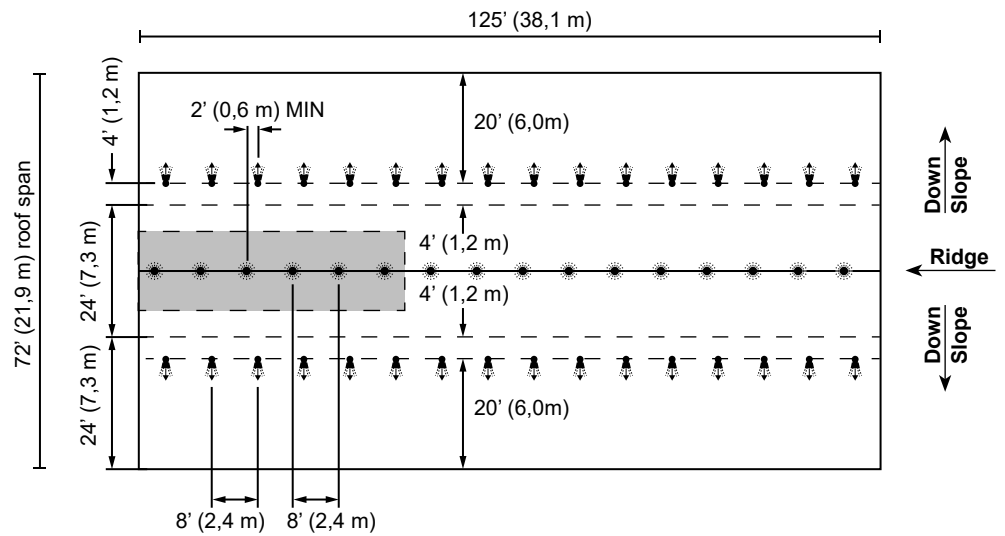

Figure 12A: Dry System Design for 72 ft (21,9 m) Roof Span
1. Figure 12A - Calculate the 6 most demanding VK697 Ridge Sprinklers. Down slope V-EP Sprinklers staggered arrangement. Continue to #2 below.